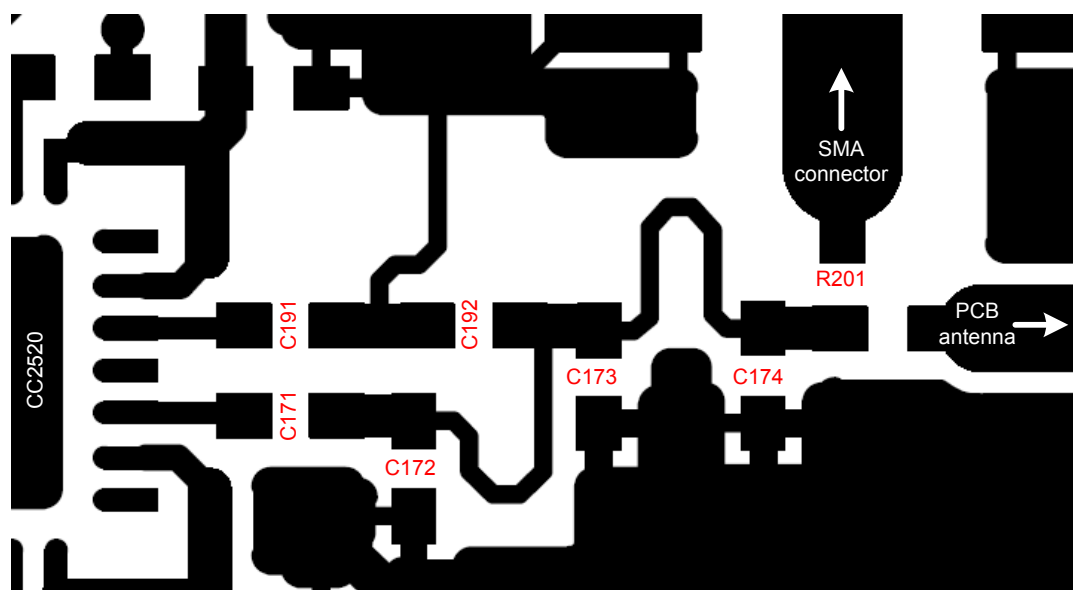

Figure 4: Actual board layout of the RF section of the reference design (rev 2.1).
Very few external components are required for the operation of CC2520. A typical application circuit is shown in Figure 4. Note that it does not show how the board layout should be done. The board layout will greatly influence the RF performance of CC2520.
Figure 4 shows the balun implemented in a two-layer reference design. It consists of three transmission lines (L1, L2 and L3) and the discrete components C191, C171, C192, C173 and C174. The circuit will present the optimum RF termination to CC2520 with a 50Ω load on the antenna connection.
Proper power supply decoupling must be used for optimum performance. This is shown as a lumped capacitor C1 in Figure 4. The placement and size of the decoupling capacitors and the power supply filtering are very important to achieve the best performance in an application. TI provides a compact reference design that should be followed very closely.
- The balun is highly layout sensitive. The inductors in Figure 4 are actually transmission lines embedded in the PCB and their values must be adapted according to the board layout. The values of the capacitors C192, C172, C173 and C174 must also be adapted to the actual board layout.